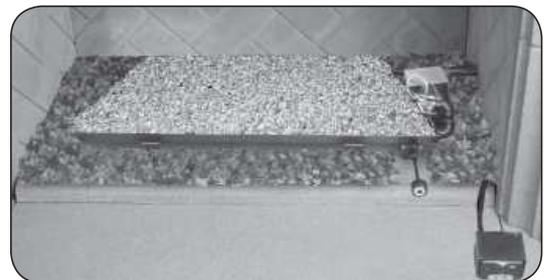

Fig. 12-4 Place vermiculite granules
2. Fill the burner pan completely with the supplied bag of vermiculite granules (see Fig. 12-4). The vermiculite is poured directly onto the already placed sand.
1. Fill the burner pan completely with the supplied bag of vermiculite granules (see Fig. 12-4).